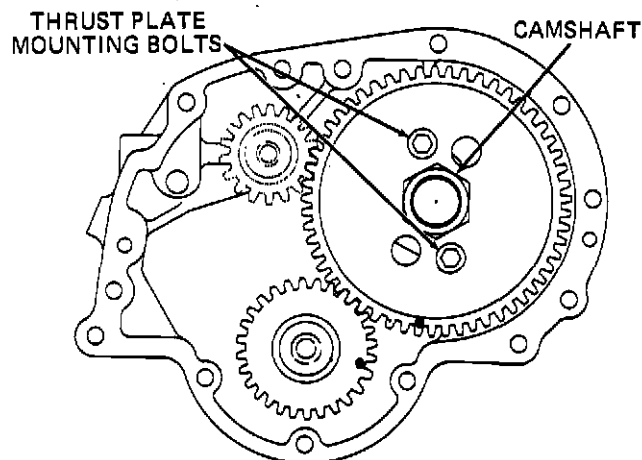

Figure 5-33. Thrust Plate Mounting Bolt Removal
11. With the tappets in the raised position, rotate the engine crankshaft until the two holes in the camshaft gear expose the thrust plate mounting bolts, as shown in figure 5-33.